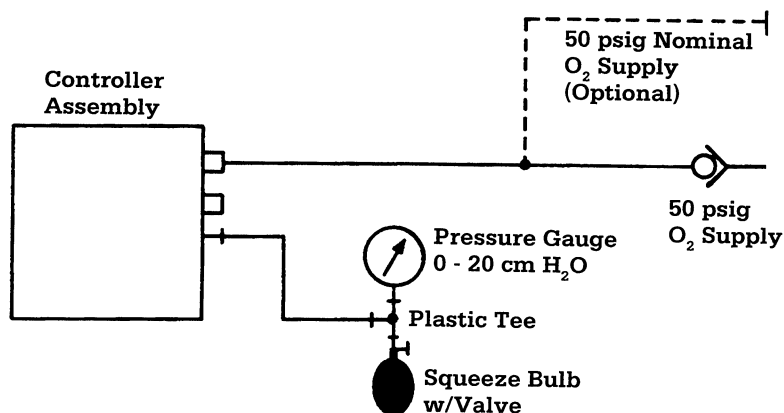

Figure 3-6
1. Connect the test equipment to the ventilator as shown in Figure 3-6.